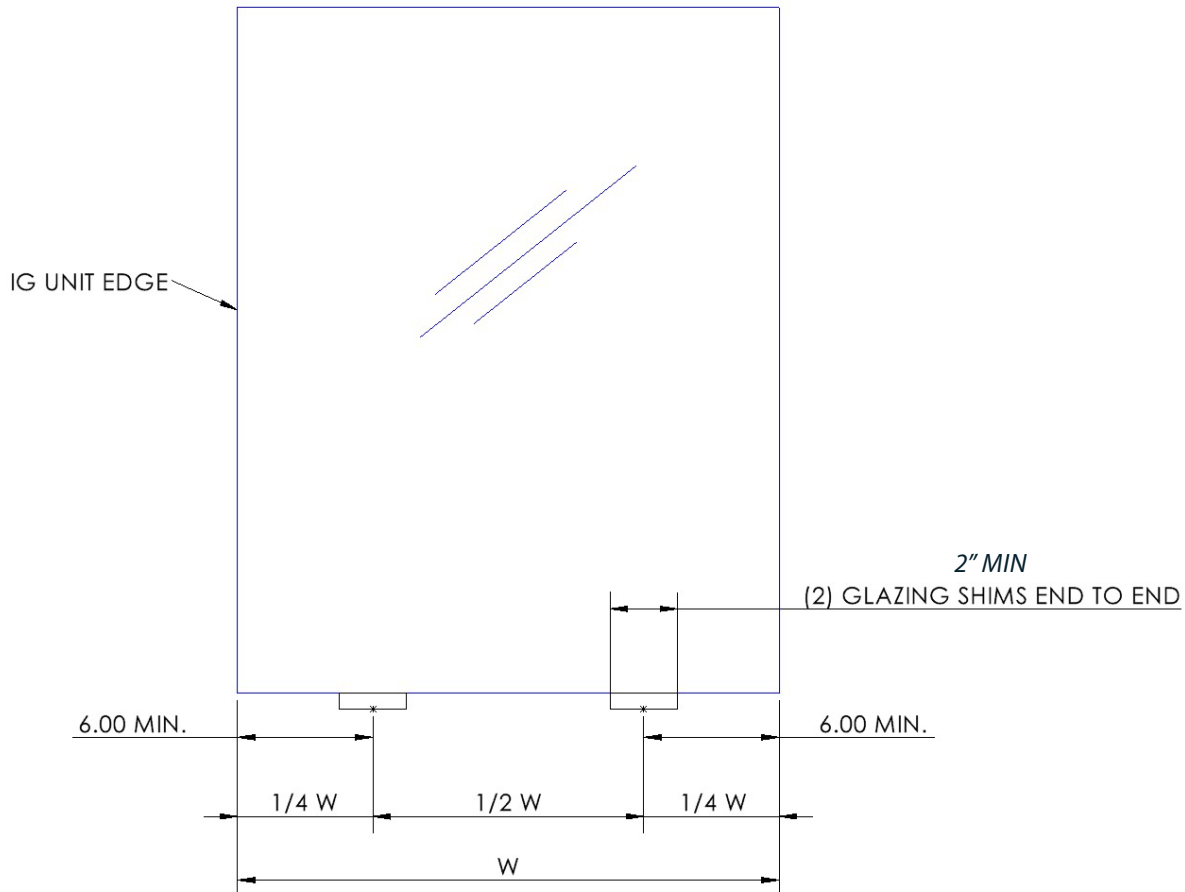

Figure 20
16. Set the Insulated Glass on two (2) pairs of setting blocks positioned at  $1/4$  points in opening as shown in Figure 20. Setting blocks are not to be placed closer than 6" from the edge of glass.